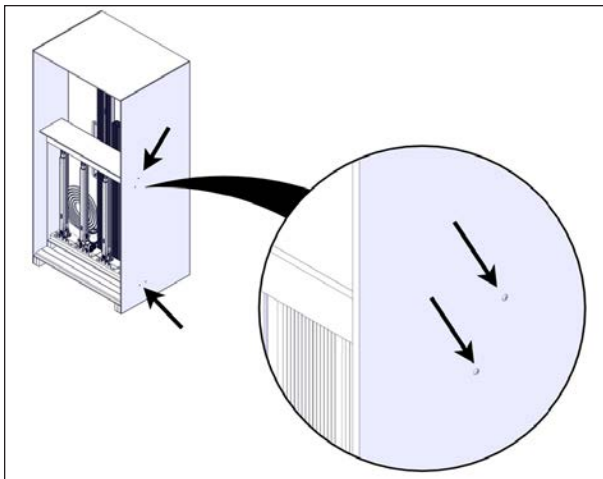

FIGURE 21: JACK BOX REMOVAL
10. Unscrew the Robertson #8 x 1.5" screws holding the jack box – four screws per side: two screws at the top, two screws at the bottom, see Figure 21.